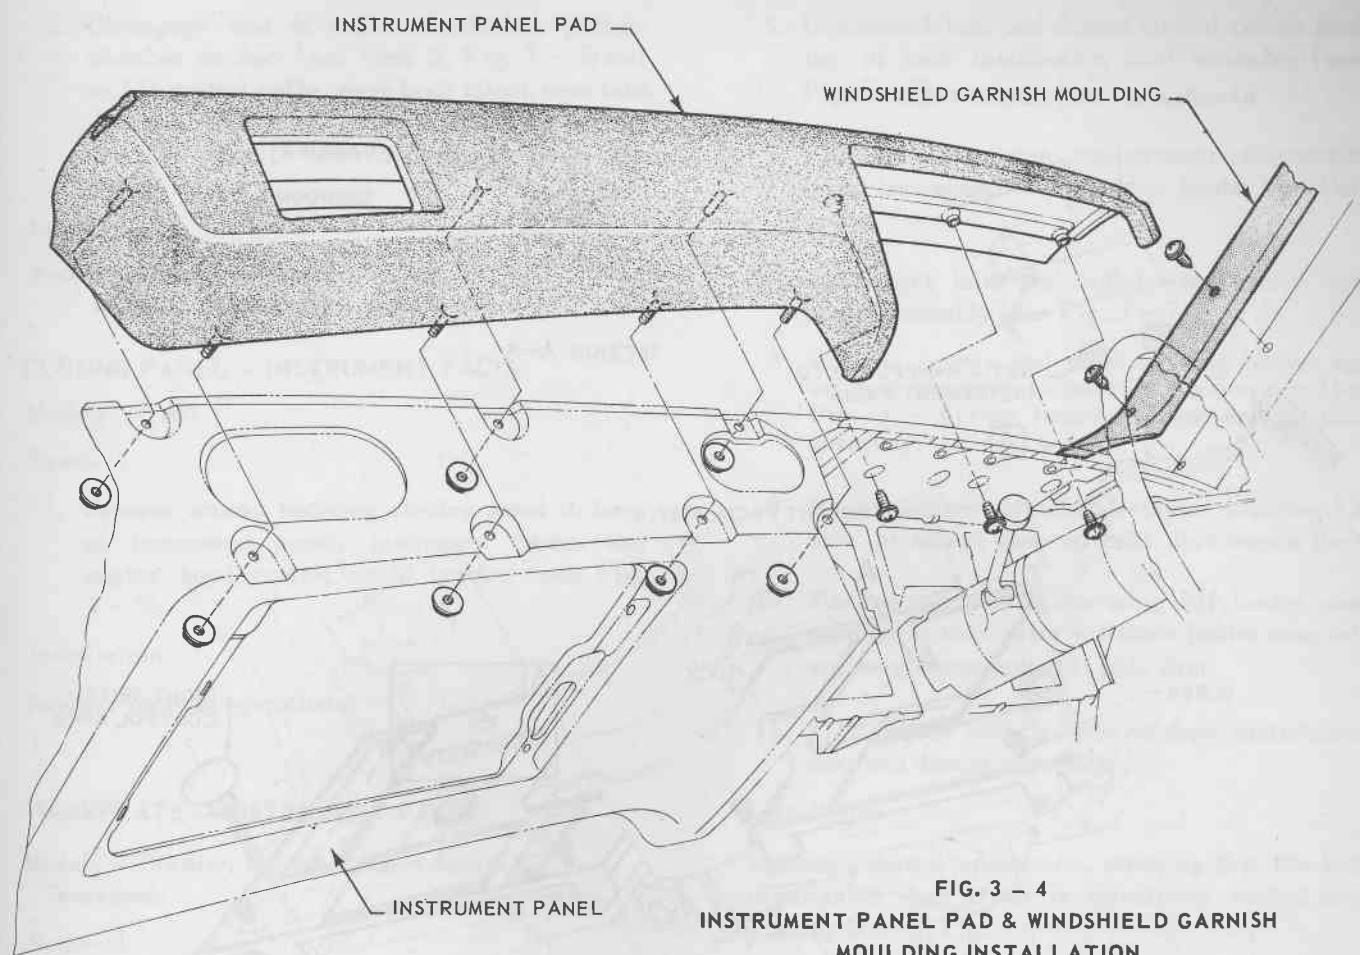

FIG. 3 - 4
2. From behind top LH side of instrument panel, compress top and bottom of upper level air outlet and withdraw outlet assembly rearwards from instrument panel (see Section C-C, Fig. 3 - 2).
3. From behind instrument panel and under pad on RH side, remove screws and nuts securing top and bottom of pad to instrument panel and surround (see Fig. 3 - 4), then remove pad assembly.